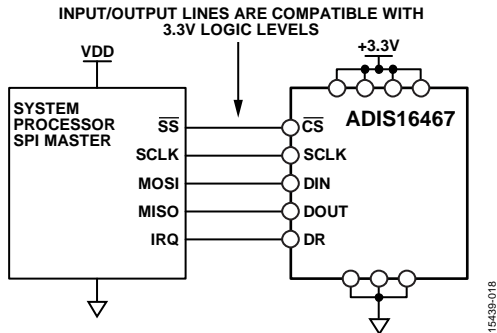

Figure 25. Electrical Connection Diagram
The SPI provides access to the user registers (see Table 8). Figure 25 shows the most common connections between the ADIS16467 and a SPI master device, which is often an embedded processor that has an SPI-compatible interface. In this example, the SPI master uses an interrupt service routine to collect data every time the data ready (DR) signal pulses.